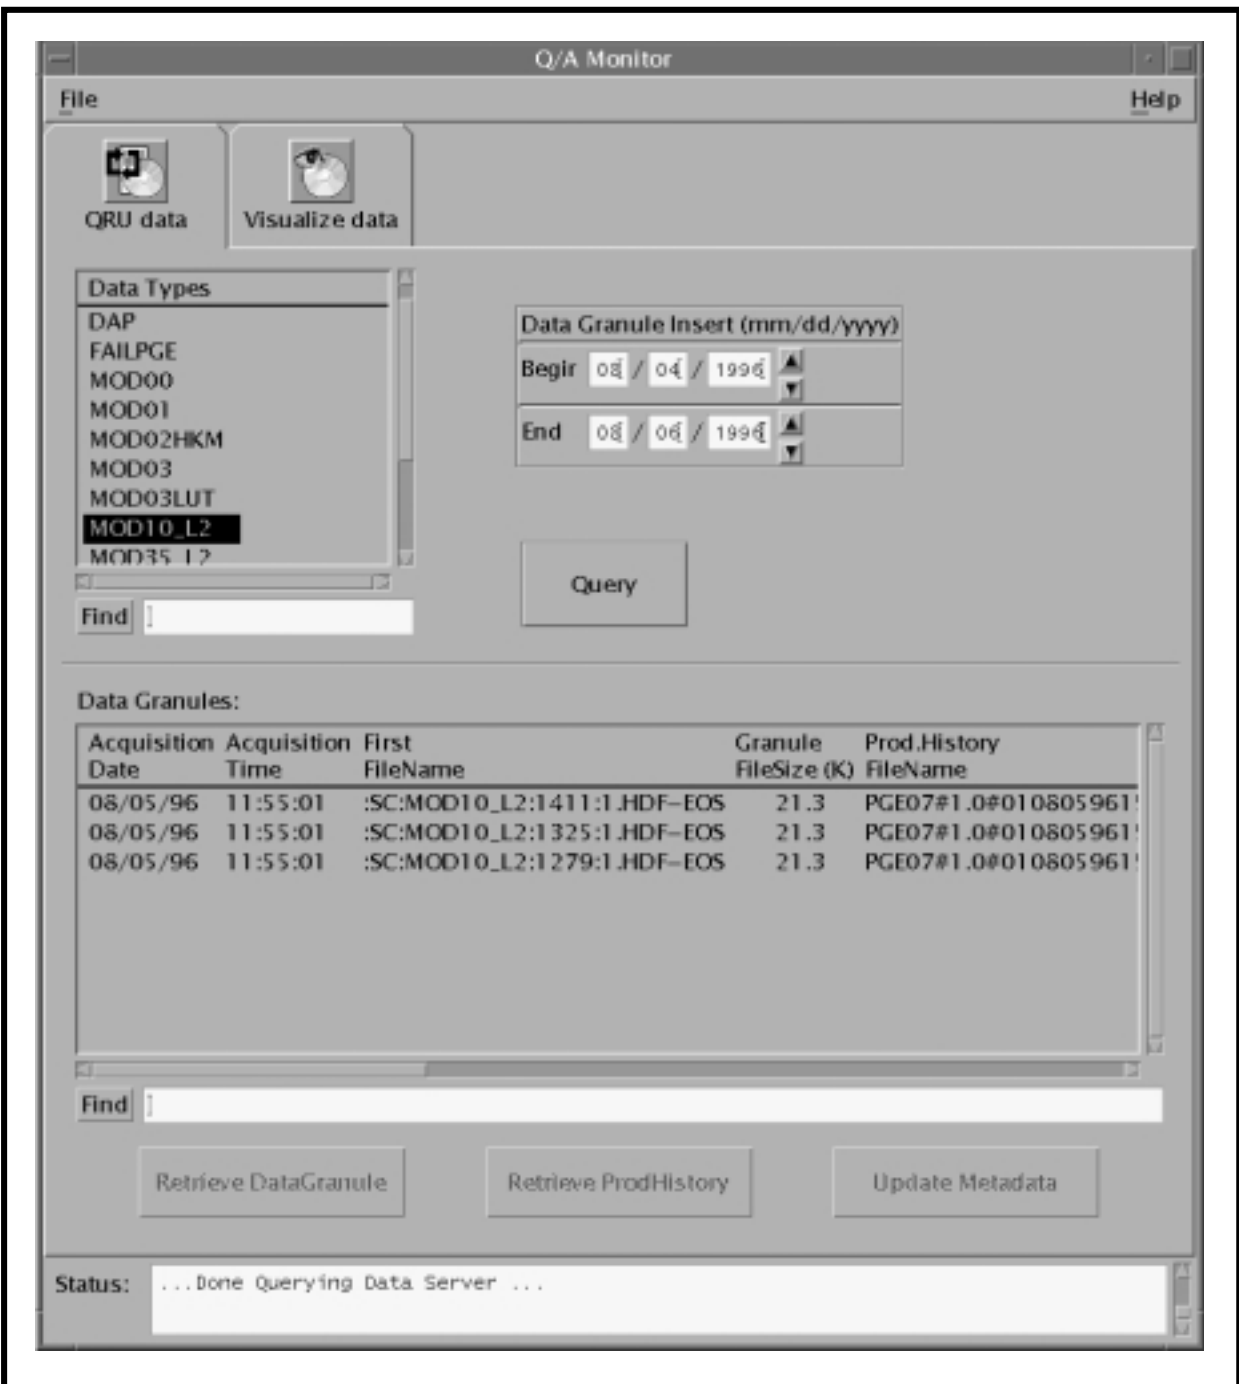

Figure 60. Q/A Monitor GUI - QRU Data Tab
- The **QA Monitor** GUI (Figure 60) is displayed.
The procedure for updating QA metadata starts with the assumption that all applicable servers are currently running and the **Q/A Monitor GUI QRU data** tab (Figure 60) (QRU = Query, Retrieve and Update) is being displayed.